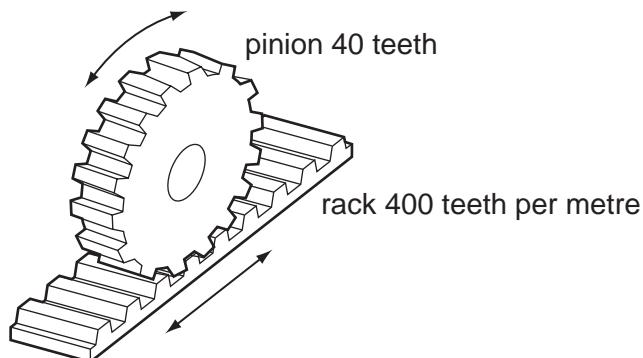

Fig. 11
- (d) Fig. 11 shows a rack and pinion mechanism.
- (ii) For the rack and pinion system shown in Fig. 11, calculate the distance moved by the rack for one rotation of the pinion gear wheel.